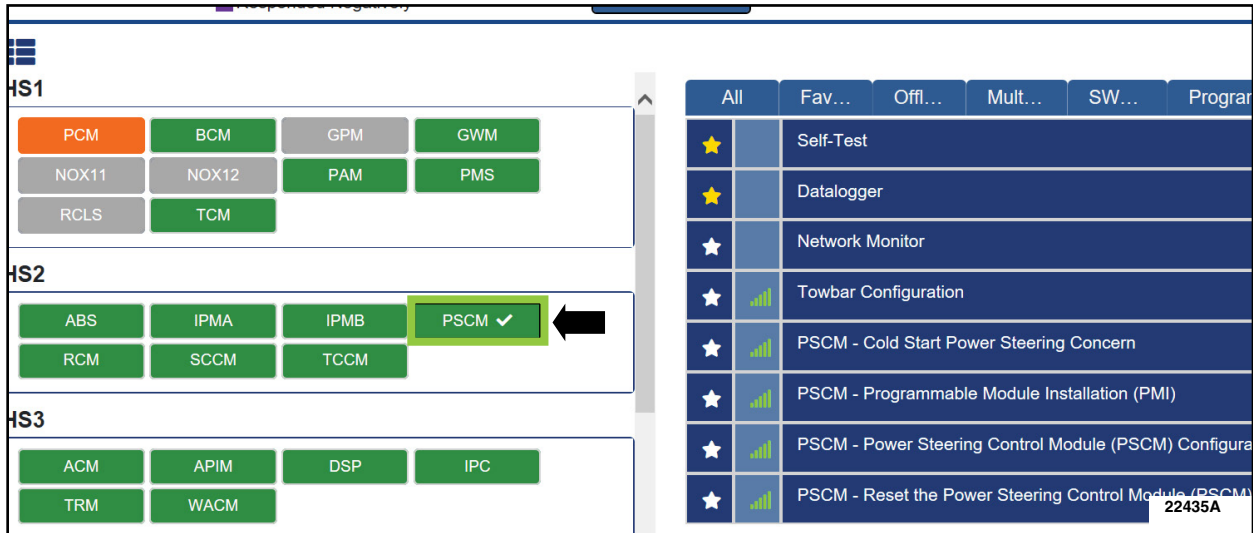

FIGURE 1
5. From the list on the LH side of the screen, select the PSCM. See Figure 1.